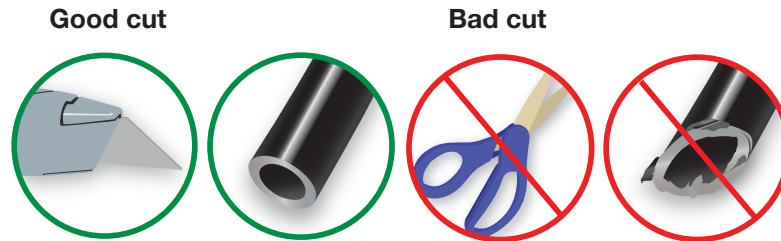

fig. 29
1. Cut the air line in half. Make clean, square cuts with a razor blade or hose cutter (Fig. 29). Do not use scissors or wire cutters.